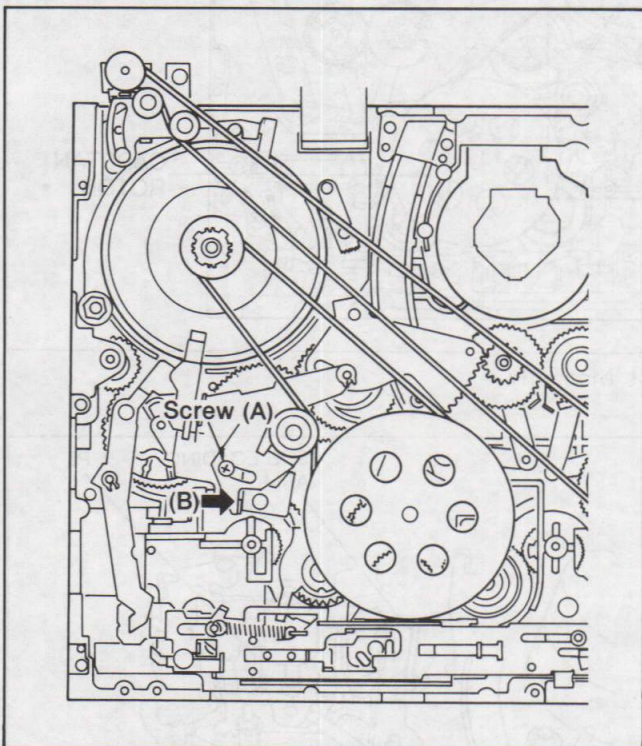

Fig. M1
1. Loosen a screw (A) slightly by using the screwdriver.
2. Set the Fan Type Tension Gauge to the direction indicated by the arrow (B) as shown in Fig. M1.
3. Tighten a screw (A) when the reading of the Fan Type Tension Gauge becomes within 40 \pm 5g.